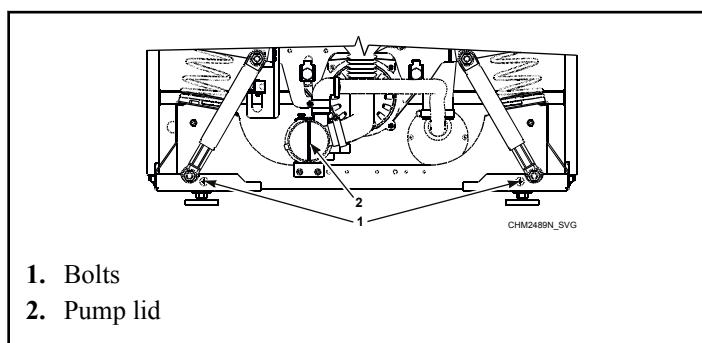

Figure 42
- c. Remove the front panel of cabinet by unlocking bolts. Refer to *Figure 42*.